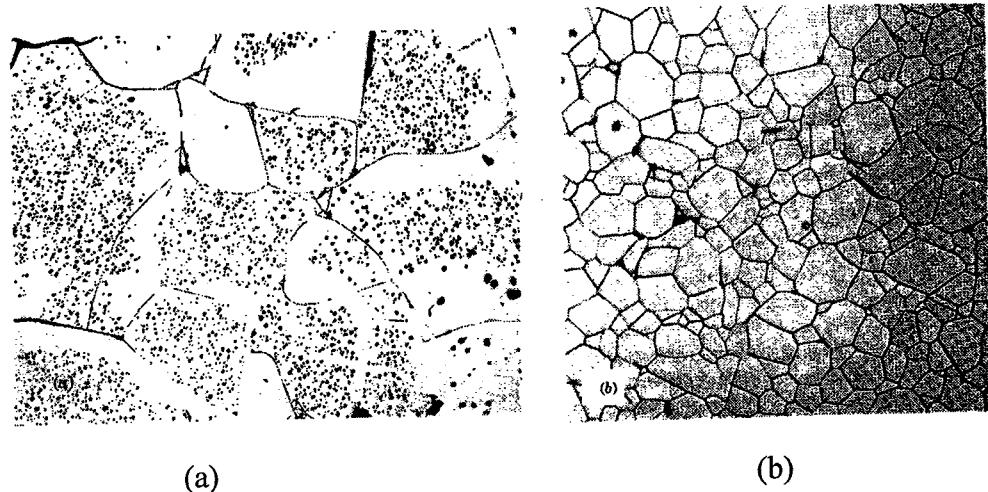

Figure 1
1. Question based on Figure 1.
- [a] What is the type of sintering process needed to form the microstructure as shown in Figure 1?
- [b] Discuss with strong reasons about the differences between Figures 1(a) with 1(b). List any possible differences in the material properties if both micrographs are produced from the same material.
- [c] If both micrographs are made from the same material, what would be the best technique to change the microstructure of Figure 1(b) to Figure 1(a)?